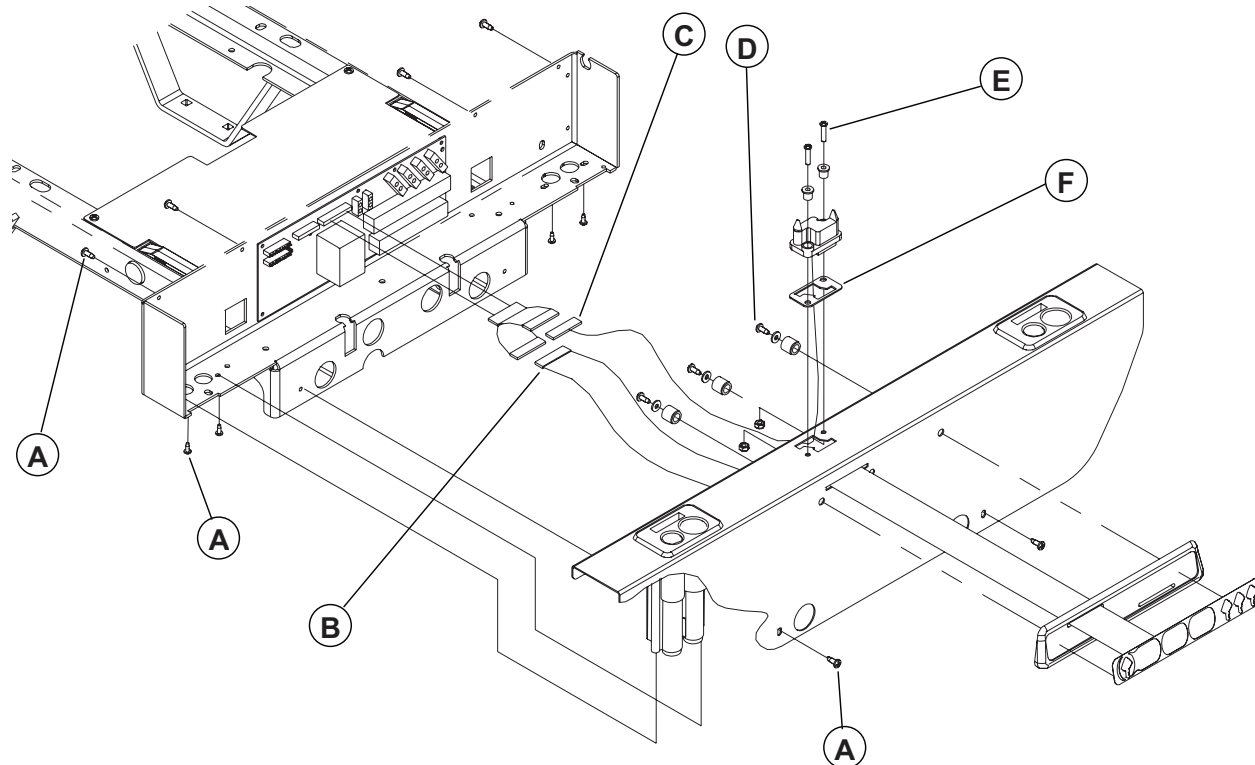

Figure 4.2A
6. Using the no. 2 Phillips screwdriver, remove the ten screws (A, figure 4.2A, page 31) holding the cover and the IV pole holders to the foot casing. Lift and remove the cover while taking care to disconnect the control panel cable (B, figure 4.2A, page 31) from the control board and, if applicable, the foot end casing connector cable (C, figure 4.2A, page 31) (optional).
7. Using the no. 2 Phillips screwdriver, remove the four screws (D) holding together the two parts of both siderail mechanism covers. Remove the covers.
8. Using the 1/2" wrench, remove the four nuts, washers and bolts (E) holding the siderail release handle to the seat section.
9. Using the 1/2" wrench, remove the two nuts, washers and bolts (F) holding each end of the full-length siderail to the head end and foot end casings.
7. Using the No. 2 Phillips screwdriver, remove the ten screws (A, figure 4.2A, page 31) holding the cover as well as the two IV poles to the foot box. Raise and remove the cover taking care to disconnect the electronic board first, the cable (B, Figure 4.2A, page 31) of the control panel and, if applicable, the cable (C, figure 4.2A, page 31) of the connector from the foot box (optional).
8. Using the No. 2 Phillips screwdriver, remove the four screws (D) holding the two parts of the plastic cover over the siderail mechanism. Remove cover.
9. Using the two 1/2" wrenches, remove locknut, shoulder spacer and bolt (J) holding the locking hook to the plate. Remove hook.
Unless otherwise indicated, refer to figure 4.2A on page 31 for the following replacement procedure.